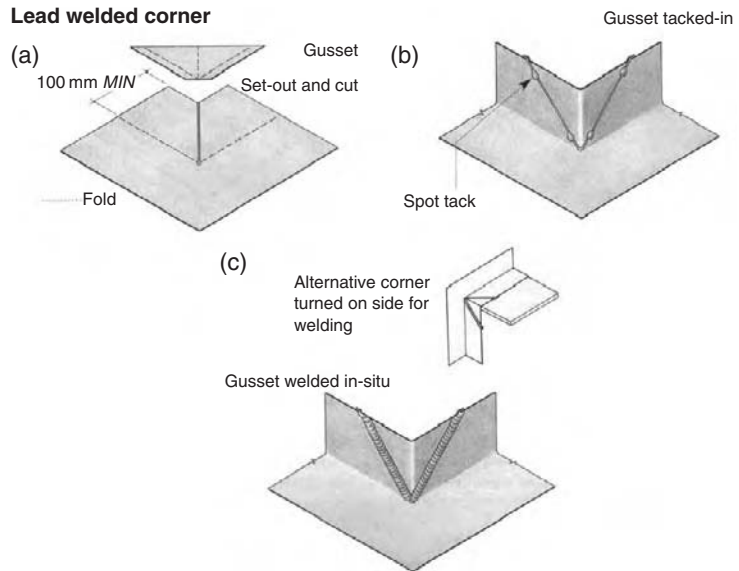

Figure 10.7 (a)–(c)
For an external corner, referring to Figures 10.7 (a)–(c):
- The lead sheet is set out, as in Figure 10.7 (a). The Figure 10.7 (a) shows the setting out for a flat roof; for a pitched roof the shape of the gusset will vary depending on the pitch of the roof.
- The sides are turned, the gusset folded and then welded using an inclined lap seam if welded in position or a flat lapped seam if working on the bench, as shown in Figures 10.7 (b) and 10.7 (c).